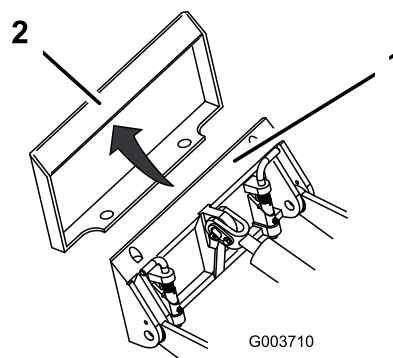

Figure 24
4. Position mount plate into the upper lip of the attachment receiver plate (Figure 24).